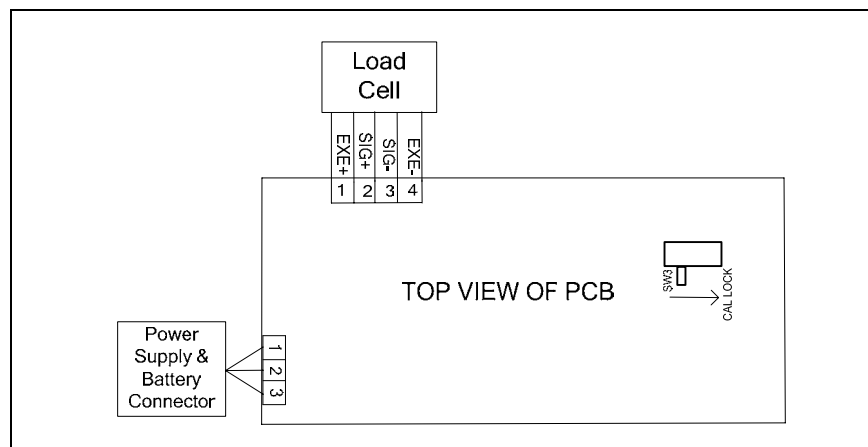

Figure 2-2. SD Series PCB connections
**NOTE:** The following steps involve power applied to the scale. Load Cell solder contacts can be used as measuring points. See Figure 2-2.